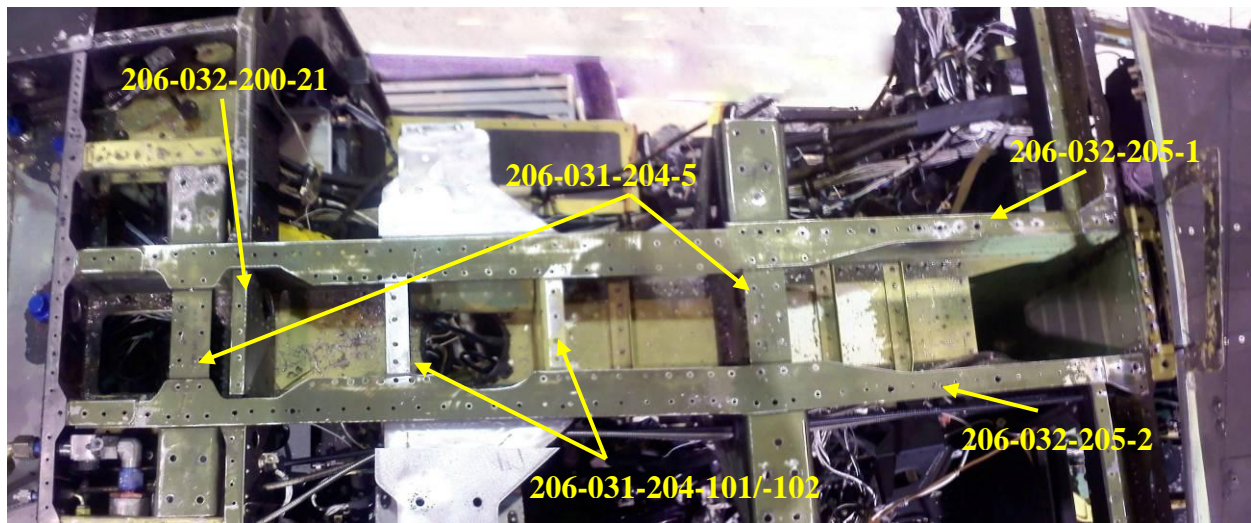

Figure 5, Cabin Box Beam Area (Cut-away), Sta. 82 to 130
3. Interior bulkheads within the cabin beams will require a compartmentalized inspection, and insertion of the bore scope probe from several flight station (FS) access points. (Fig 5)